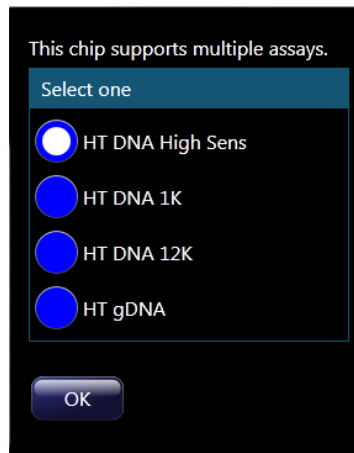

Figure 6. Assay Choice menu.
- 6 The *Assay Choice* window will appear (Figure 6). Touch the desired assay and then touch *OK*.